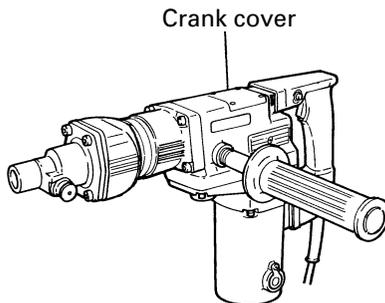

Fig. 18
- (1) Remove the crank cover and wipe off the grease inside. (Fig. 18)
- (2) Apply 0.7 oz (20 g) of HITACHI Electric Hammer Grease A (standard accessory, contained in tube) to the crank case.